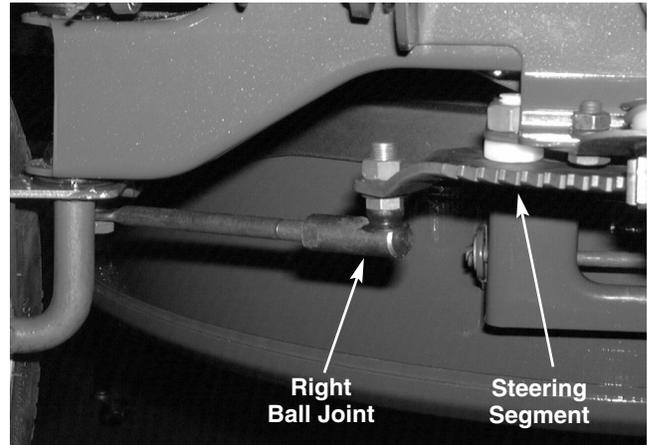

**FIGURE 2.**
- 4). In front of the axle, measure the distance horizontally from the inside of the left rim, to the inside of the right rim. See figure 2.